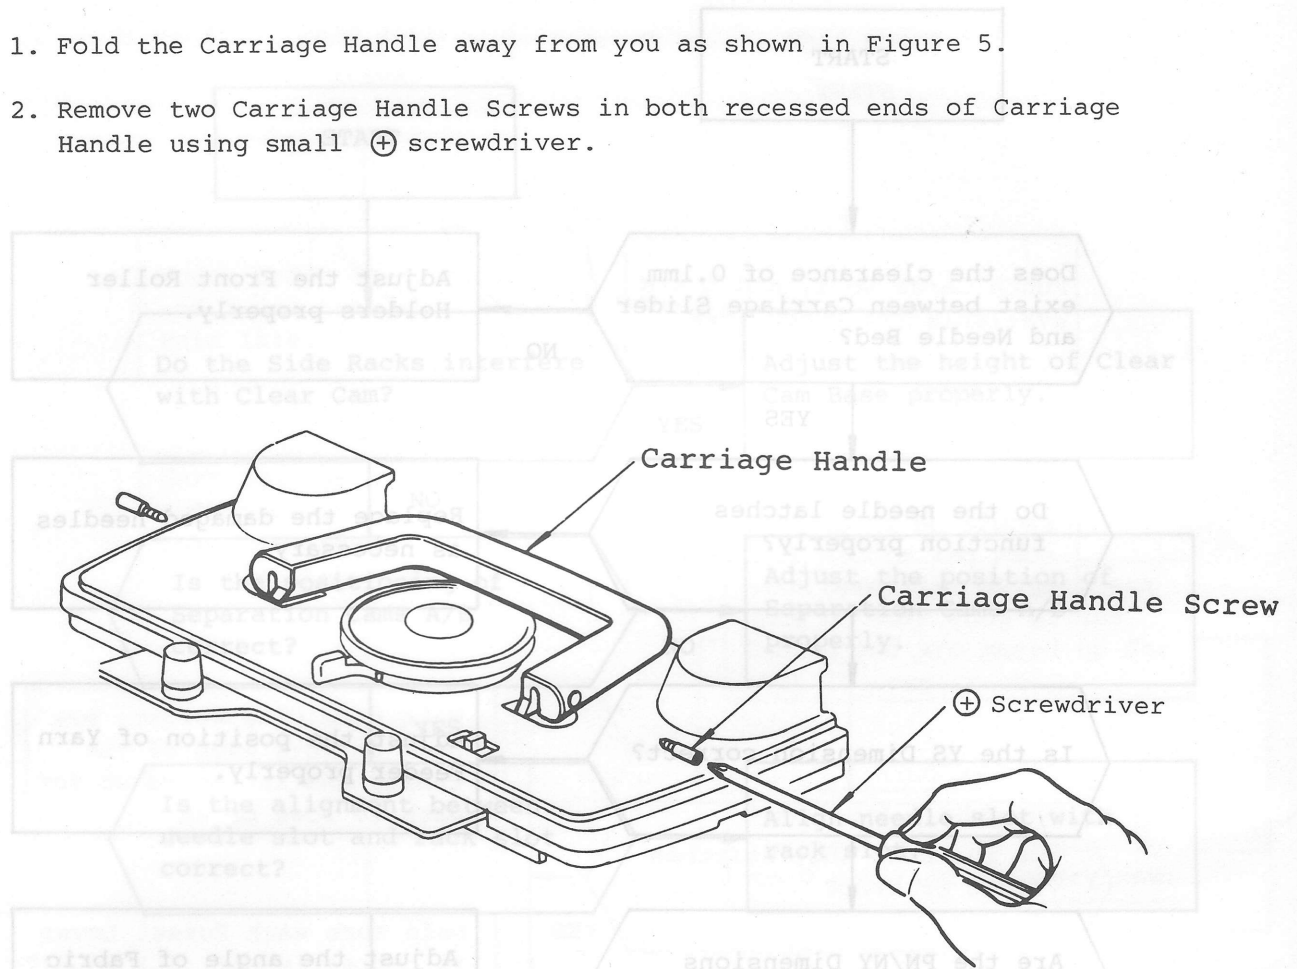

Figure 5.
1. Fold the Carriage Handle away from you as shown in Figure 5.